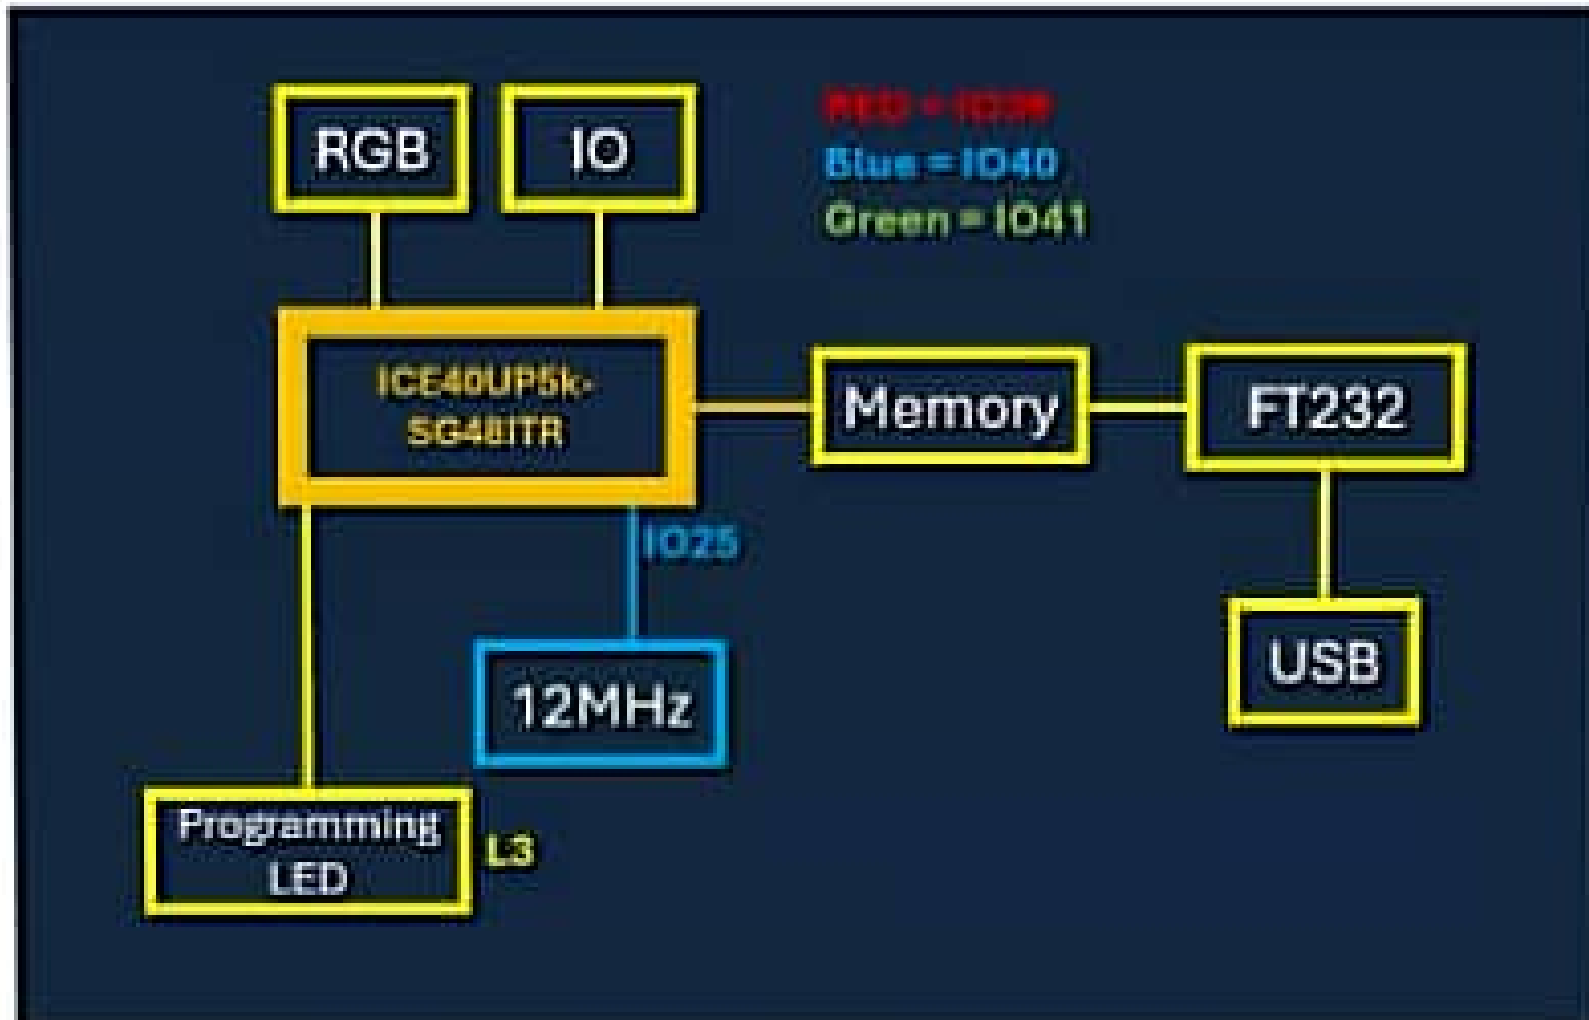

Figure 1: VSDSquadron FPGA Mini (FM) board Block Diagram
The block diagram shown in Figure 1 shows the key components of the VSDSquadron FPGA Mini (FM) board.